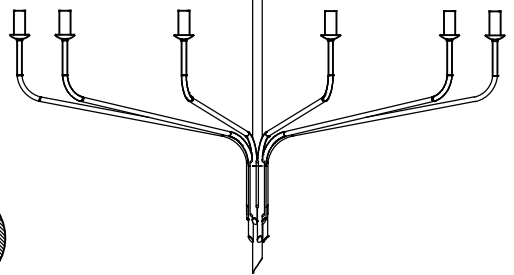

FIGURE-3
- Open the end links of the chain and attach the chain to the screw collar loop. Insert the lead wire to the stem then thread in the stem into the frame. See Figure-2. Hang the fixture on the chain at the desired height. Remove the excess chain close all links. Unscrew the threaded ring from the screw collar loop. Allow the ring and canopy to slide down the chain to the top of the fixture. See Figure-3.